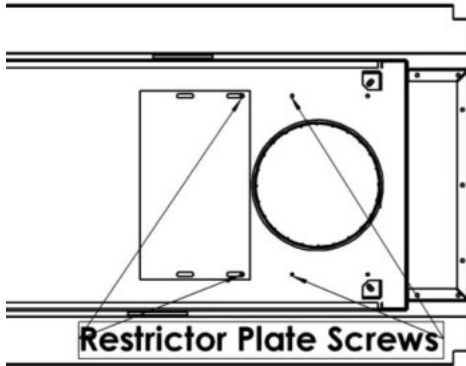

Fig.1
1. Remove the [2] DT screws in the Flue Restrictor. Also remove the [2] screws at the front of the Flue (**Fig.1**).